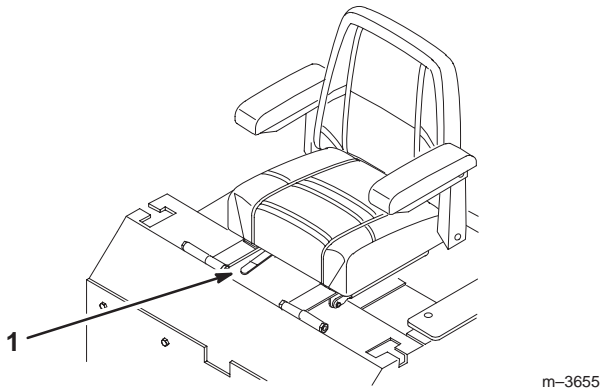

Figure 22
- To adjust, move the lever sideways to unlock seat (Fig. 22).